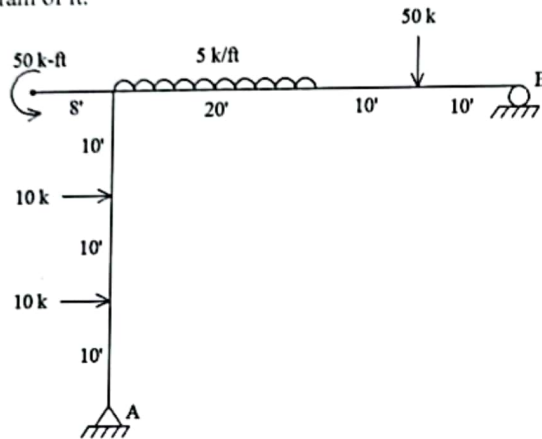

Fig. 1
| b) Solve the frame given in Fig. 1 below and draw the shear force diagram and bending moment diagram of it. | (30)  | 2    |